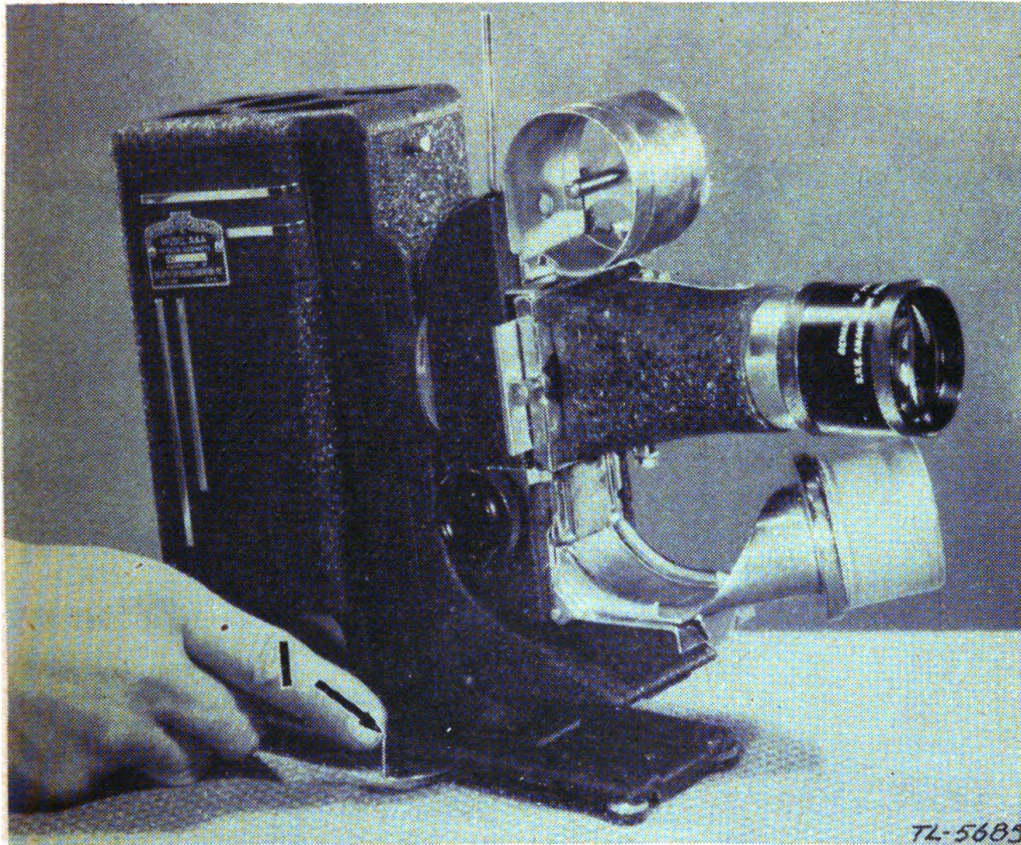

FIGURE 73.—Screening the image with tilting lever.
c. Raise or lower framed picture on screen by moving tilting lever *I* (fig. 73) at base of machine. Never tilt projector more than lever will allow, as lamp filament will break if operated at too great an angle. Set projector on a higher base if more elevation is desired.